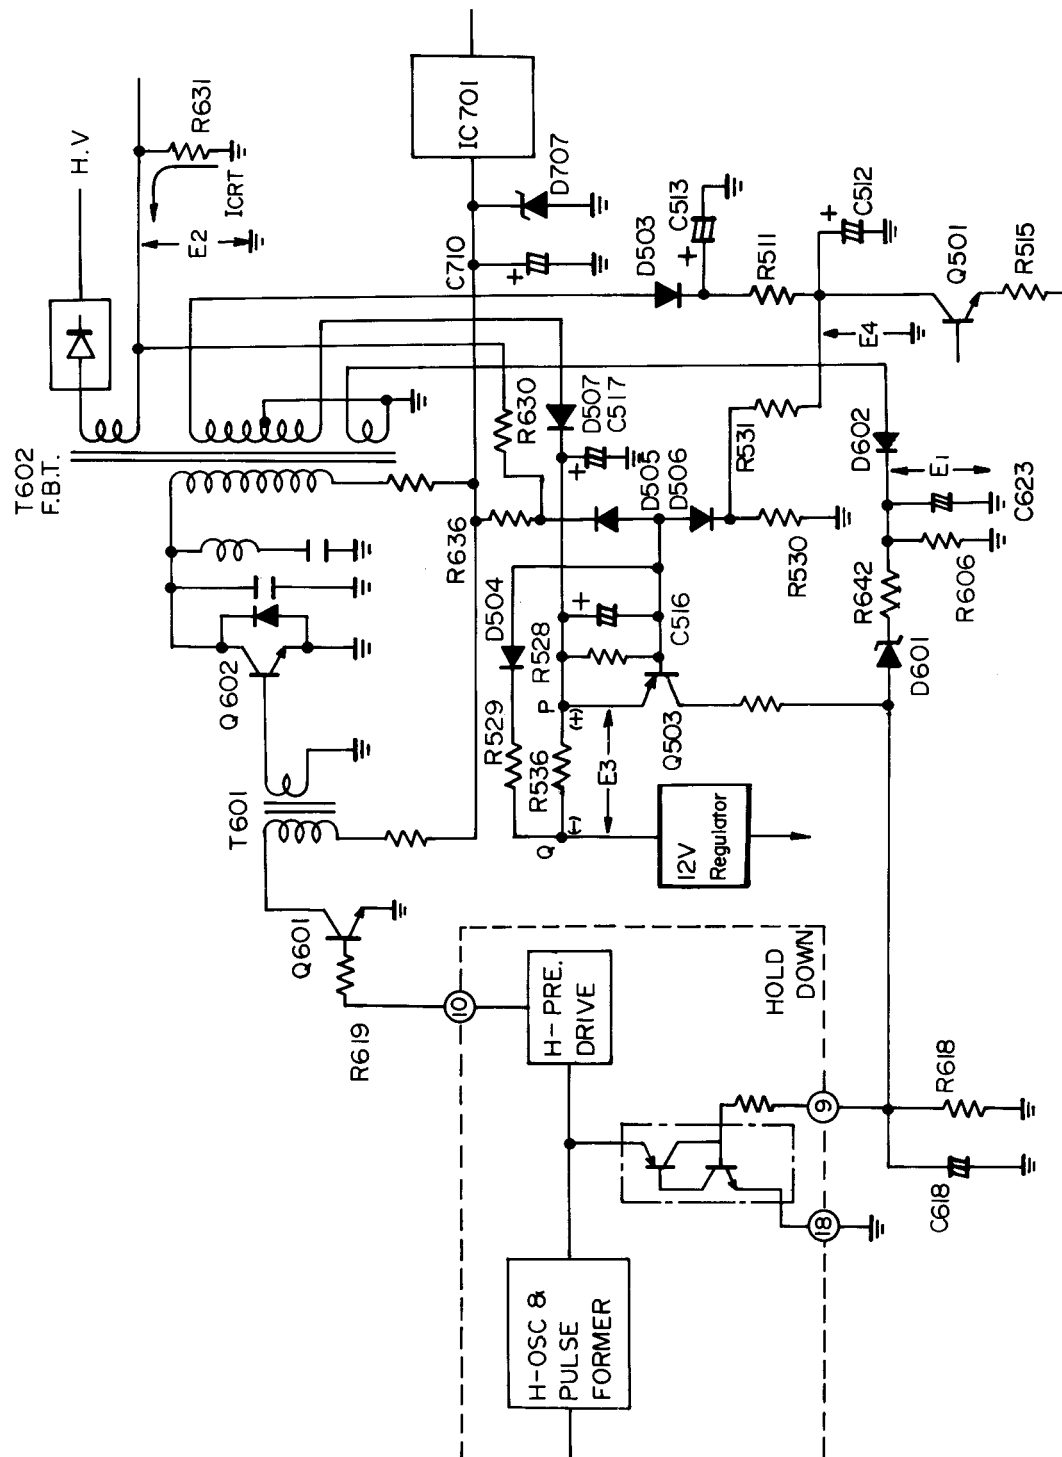

Figure 14.
- (1) D707: This circuit is shorted to open the F701 at excessively increased 115V line source. If the regulator IC701 is shortcircuited by troubles, the diode activates. Once the shortcircuiting of D707 occurs, troubleshoot and repair, and replace the unresettable D707 with new one. D707 requires about 135V to start conducting.
- (2) Horizontal/vertical IC hold-down functions (including the trouble detector transistor Q503): the simple hold-down functions of IC501 are described below. The horizontal oscillation voltage, in Fig. 14 is converted into square waves at the pulse former circuit, and sent to the H-pre. driver circuit.
All the power for TV signals are obtained from +12V source. If the short-circuiting occurs at the 12V line, the voltage  $E_3$  is developed across R536. (See Fig. 14 for its polarity). The voltage level at point Q is much smaller than that at point P. The voltage at Q is then sent to the cathode of D504 via resistor R529. The anode of D504 is connected to the base of the transistor Q503. The point P is the emitter of Q503, and the transistor Q503 turns on with decreased base voltage. The trouble detector transistor Q503 activates to protect the circuit.